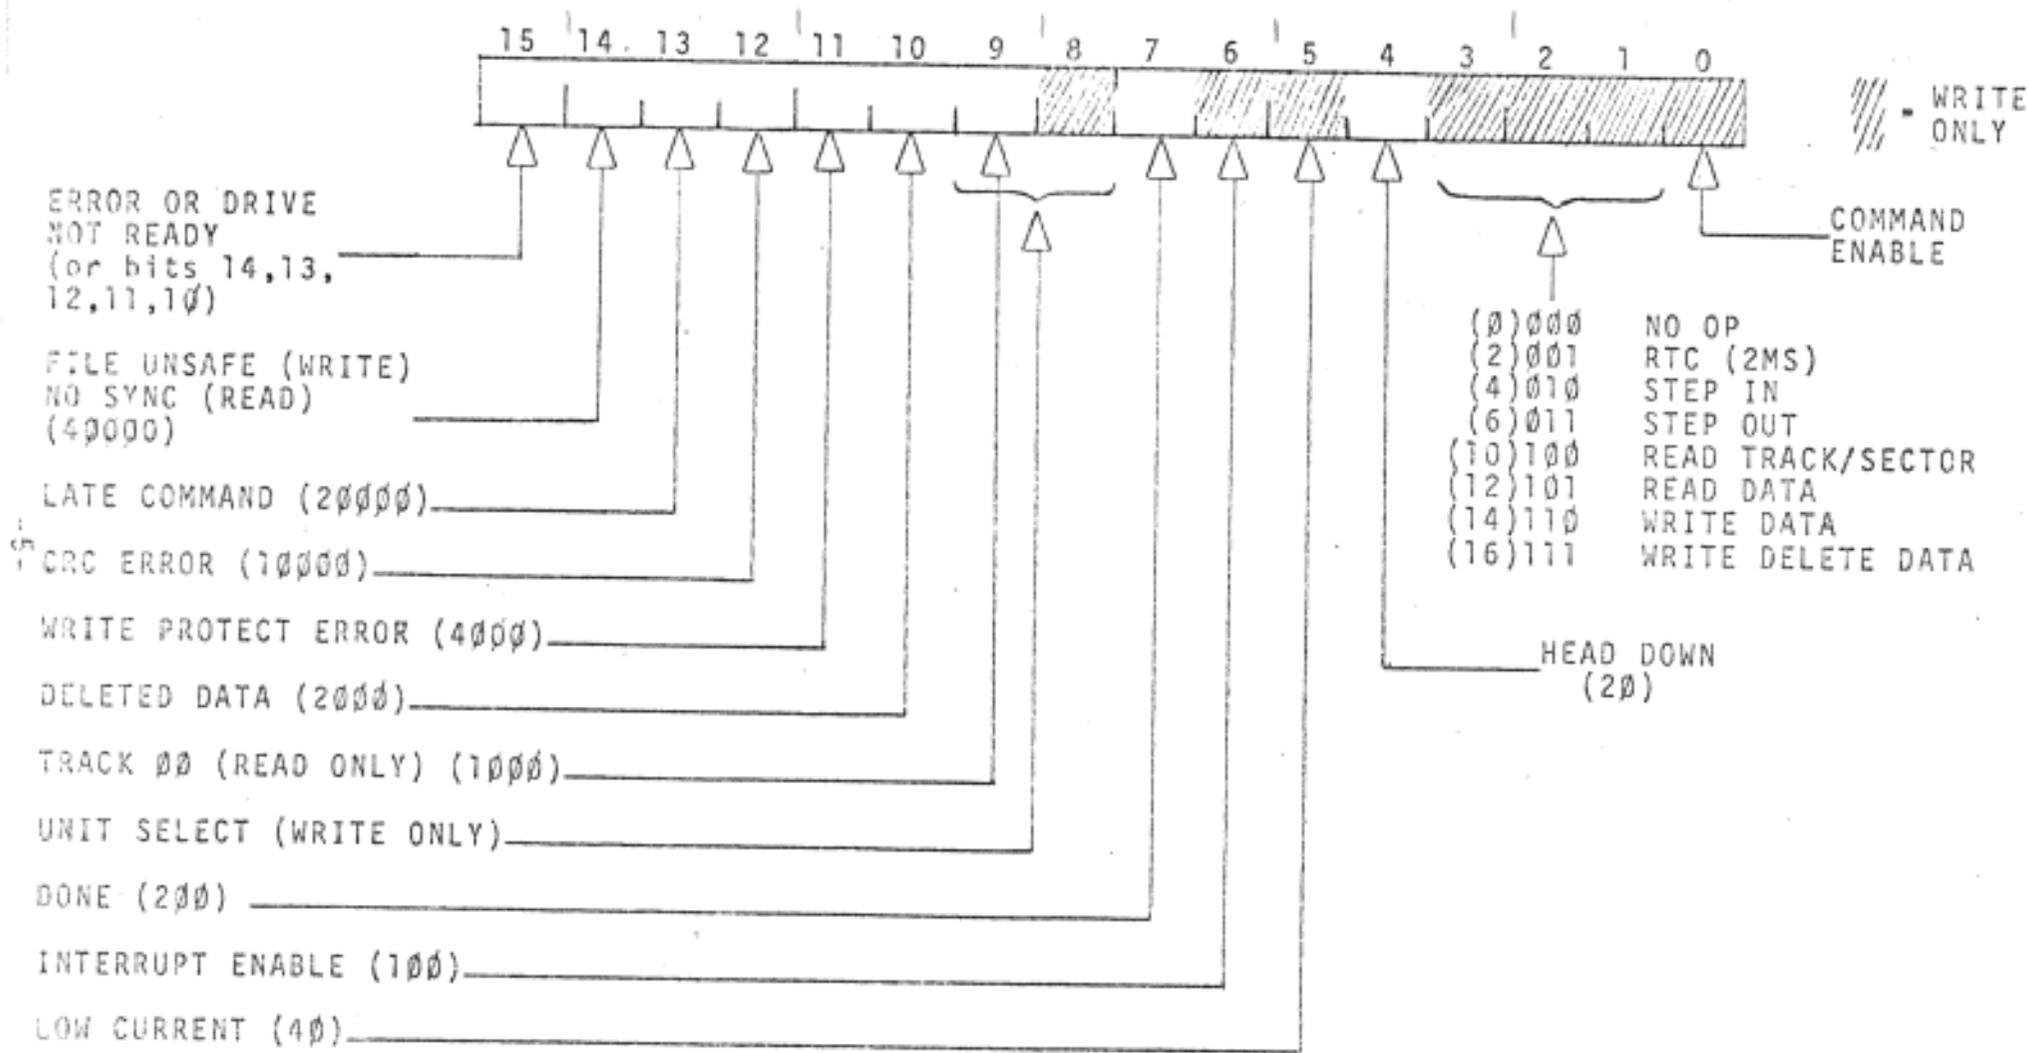

FIGURE 1
6.2 QX Control and Status Register (QXCS) - 177000₈ (see fig. 1)